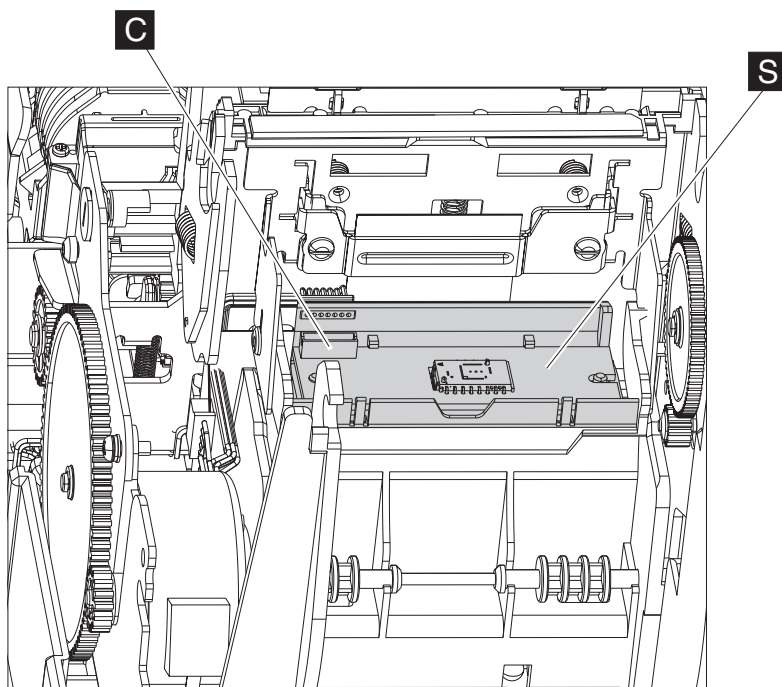

Figure 35. Removing the paper-out sensor assembly
3. As shown in Figure 35, push the paper-out sensor assembly (**S**) to the side and pull out the latch.
2. Place the new paper-out sensor into the printer, and push to either side, aligning the paper-out sensor (**S** Figure 35 on page 51) with the open slots.